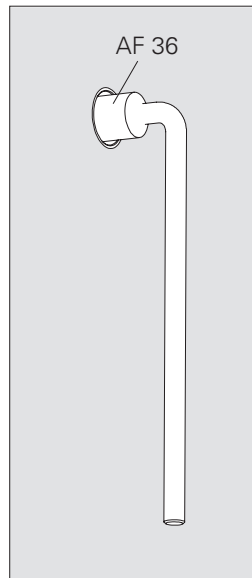
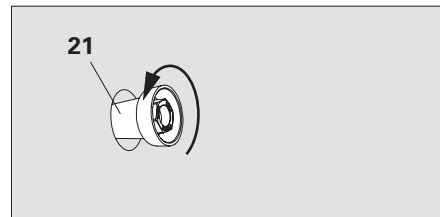

Fig. A5.14
Fig. A5.15
4. Screw out Screw-On Cone-2 M24/DW 20 (**21**) by hand. (Fig. A5.14 + Fig. A5.15)